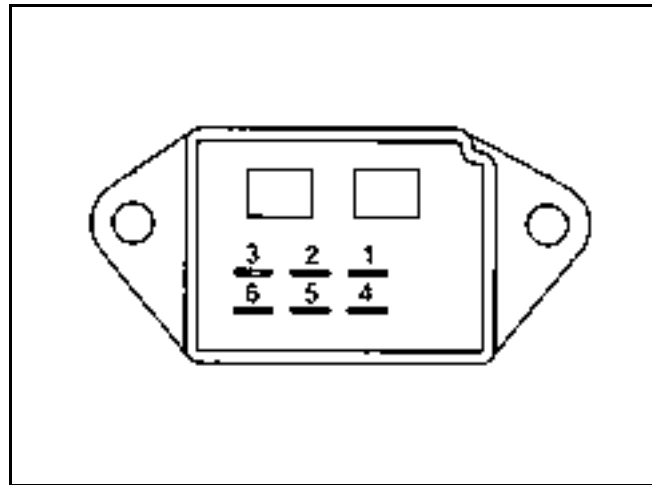

Figure 195
* **NOTE:** If multimeter does not have a diode scale, this test can not be done. This is not a problem if powered tests are done. Powered test must be done to check out relays (Figure 195).